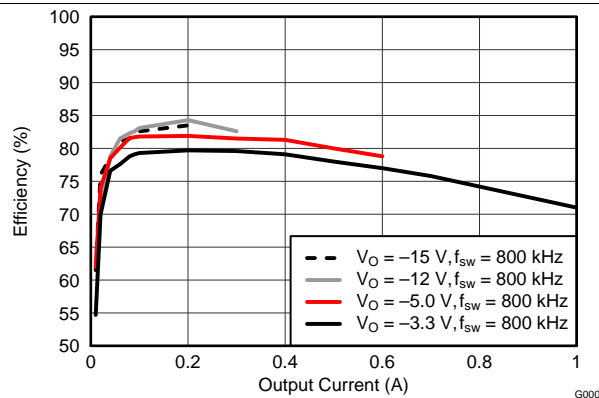
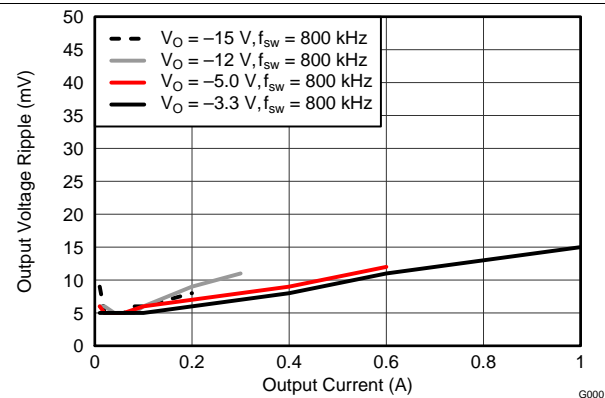
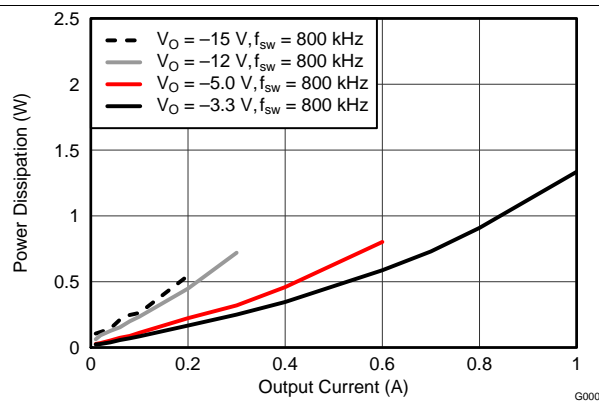

Figure 1. Efficiency vs. Output Current
Figure 2. Voltage Ripple vs. Output Current
Figure 3. Power Dissipation vs. Output Current
- (1) The electrical characteristic data has been developed from actual products tested at 25°C. This data is considered typical for the converter. Applies to Figure 1, Figure 2, and Figure 3.